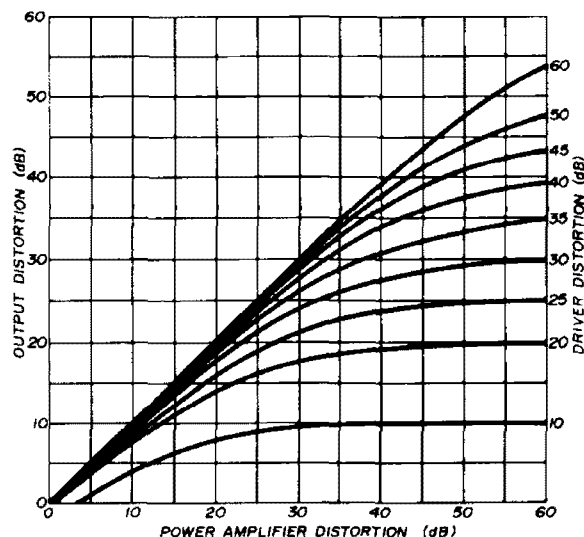

fig. 2. How IMD levels of the driver and output stage combine to determine overall IMD performance (courtesy Collins Radio Company).
output stage IMD performance will limit the overall performance of the equipment. The way in which the IMD levels of the driver and the output stage combine to determine the overall performance is illustrated in fig. 2.*
*Distortion measured in dB below one tone of a two-tone signal. Products are assumed to add in phase. Fig. 2 is derived from a plot of the relation